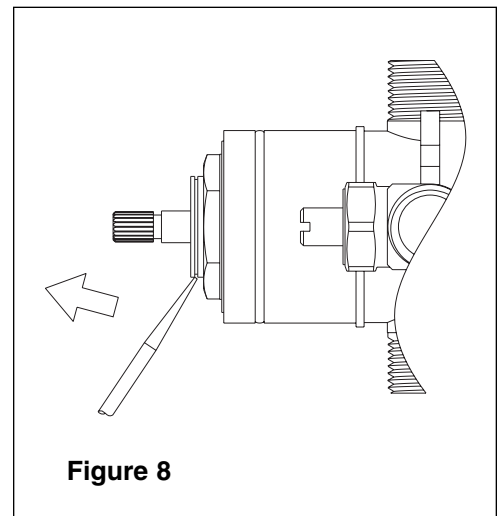

Figure 8
2. Remove the grey adjustment ring by placing the blade of a knife into the groove and prying it off (See Figure 8).